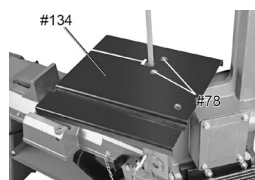

Fig. 12
6. Guide the Saw Blade through the slot in the Vertical Cutting Table (#134), and secure the Vertical Cutting Table in position with the two Screws (#78 [Fig. 12]).